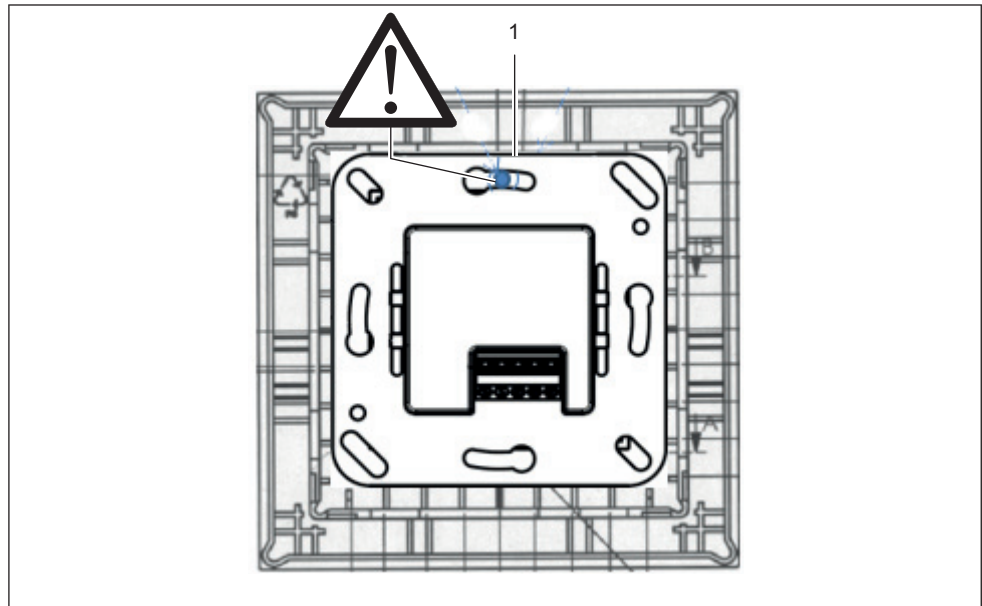

Fig. 19: Insert the WRU 220 reader into the blind module
2. Insert the reader into the blind module FLUSH WITH THE TOP (Fig. 19/1).